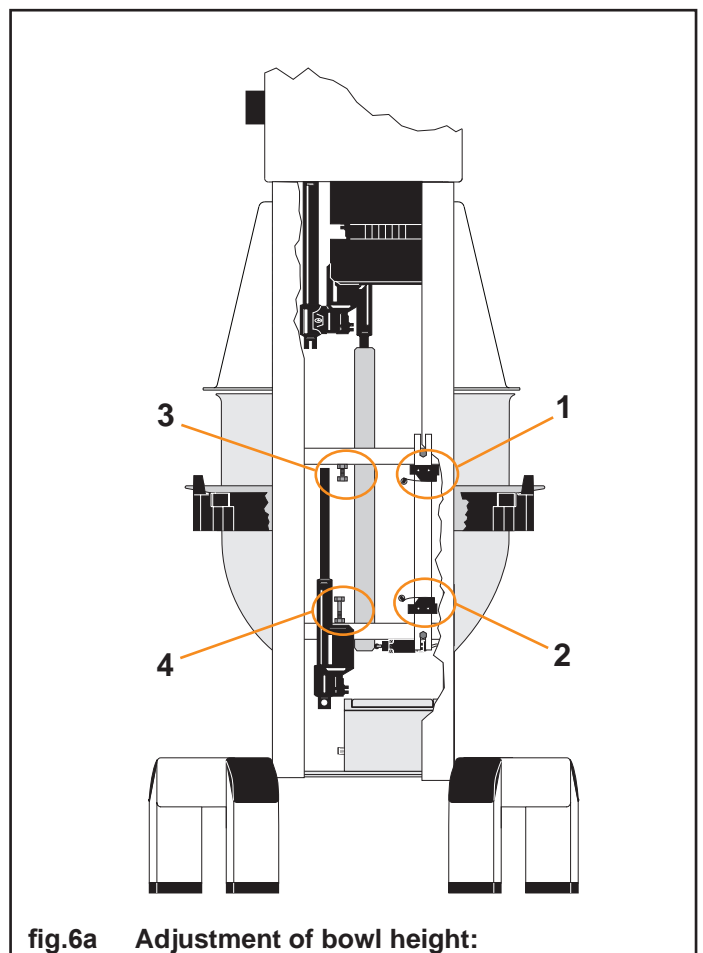

fig.6a Adjustment of bowl height:
The upper and lower position of the bowl is determined by micro switch (1) and (2), (fig. 6a).